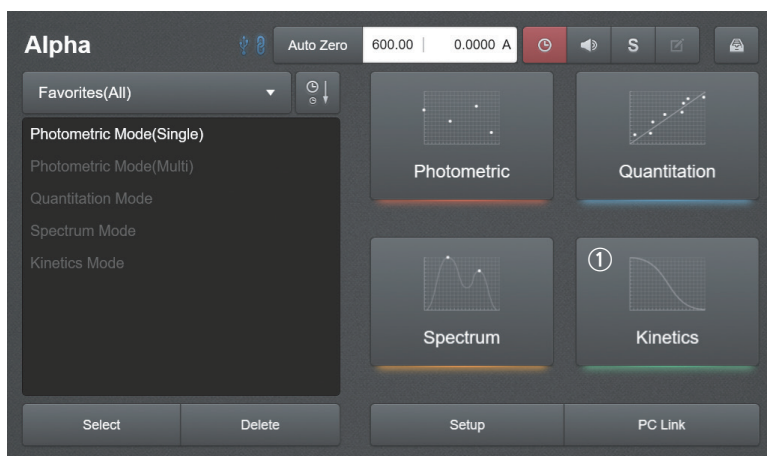

Fig. 6.9
1. [Fig. 6.9] Select ① **Kinetics Mode** Mode on the main page.